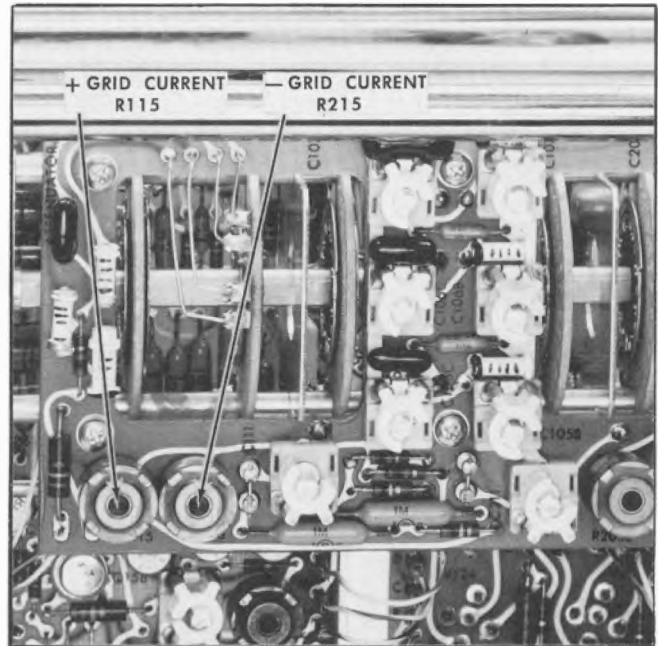

Fig. 6-13. Location of adjustments for steps 6 and 7.
d. Set the +INPUT AC-GND-DC switch to AC. If there is a trace shift, adjust the +GRID CURRENT control (R115; see Fig. 6-13) so the trace is positioned to graticule center. To check if the adjustment is made accurately, set the +INPUT AC-GND-DC switch to GND and back to AC. There should be no trace shift.
d. Set the —INPUT AC-GND-DC switch to AC. If there is a trace shift, adjust the —GRID CURRENT control (R215; see Fig. 6-13) so the trace is positioned to graticule center. To check on the adjustment, set the —INPUT AC-GND-DC switch to GND and back to AC. There should be no trace shift.